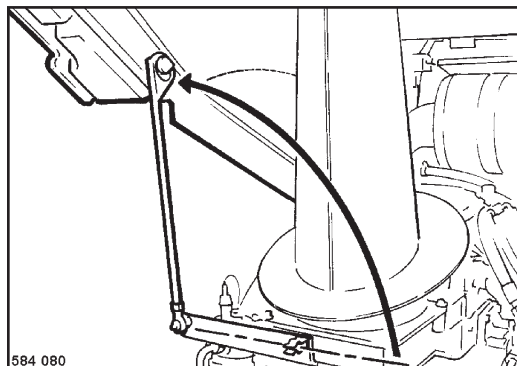

Fig. 61
- Pull the support out of the bracket and support the hood (Fig. 61).